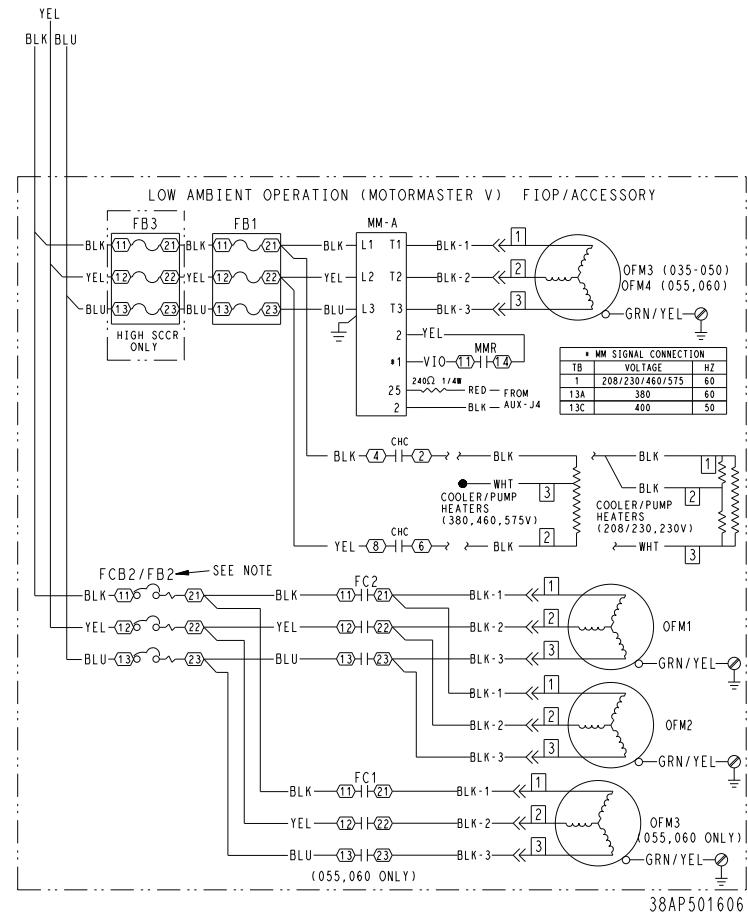

Fig. 6 — Motormaster Power Wiring — 30RAP035-060 Units
5. Connect fan wires from fan motor OFM3 to terminals T1, T2, and T3 per Fig. 6.
- b. Connect VIO and YEL wires to terminal 14 and 11 of MMR per Fig. 6.
6. Mount Motormaster V controller (Item 25) in location where FC1 was mounted, using 4 AL80AU170 screws (Item 9) provided. See Fig. 6.
7. Connect fan wires from fan motor to terminals T1, T2, and T3 per Fig. 6.
- a. Connect BLK, YEL and BLU wires of harness (Part No. 38APHLSMFV-A00) to fuse block 1 (FB1) load 21, 22, 23 and the other end to MM connection L1, L2 and L3 per Fig. 6.
- c. Connect VIO and YEL wires to terminal 14 and 11 of MMR per Fig. 6.